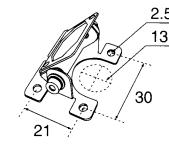

Fig.2/Schéma 2/Fig.2
- 2 Loosen the camera mounting bracket ③ and angle adjustment screw. Determine the attachment angle, and carefully tighten the angle adjustment screw.
- 3 Make a 13 mm hole in the rear bumper camera mounting bracket (see Fig. 2).
- *If necessary, use a self-tapping screw ⑫ to fix the camera mounting bracket (In the case of a plastic mount area).*